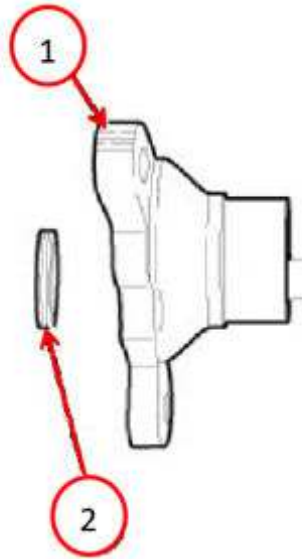

Fig. 54
78. For **2WD vehicles**, remove and **DISCARD** the seal from the output flange and replace it with a **NEW** seal Fig. 54.